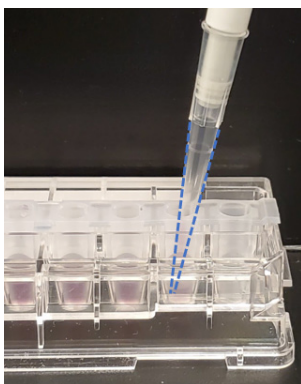

Figure 7. The pipette tip (outlined in blue) is inserted to the bottom of each well to dispense cell suspension.
- 8 Pipette 30 μL or 50 μL of cell suspension to wells B through G for XF HS or XFp PDL miniplates, respectively, using a single channel pipettor. The pipette tip must be placed at the bottom of the well and in the inner ring element of the wells on the XF HS PDL miniplate, to dispense properly (**Figure 7**). **Do not** add cells to wells A and H.